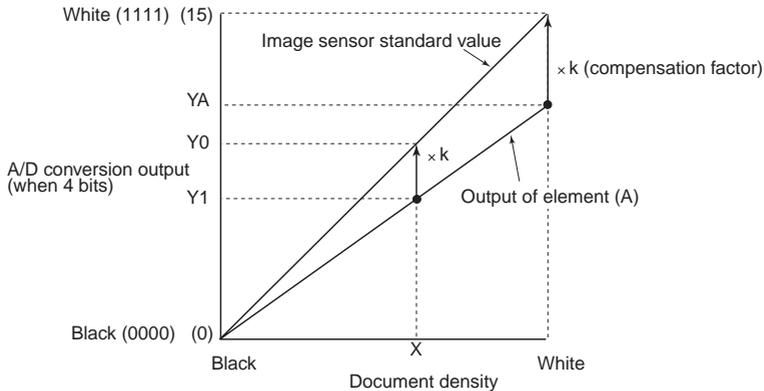

Fig. 2-18
Fig. 2-18 shows the output of an element (A) of the image sensor when the document density changes from black to white, and the output of the standard value of the image sensor, if the A/D conversion output is assumed to be four bits.